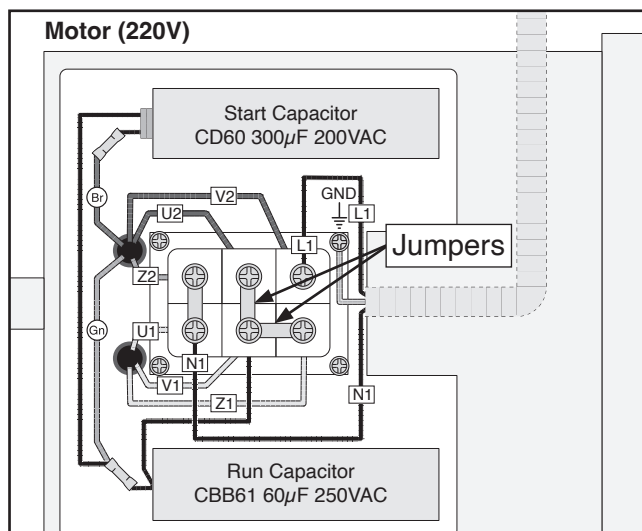

Figure 12. Motor rewired for 220V.
10. Move jumpers as indicated in **Figure 12**. One jumper will not be reused.
11. Move incoming power wire N1 to terminal with wire U1, as shown in **Figure 12**.
12. Move incoming power wire L1 to terminal with wire V2, as shown in **Figure 12**.
13. Completed 220V rewiring should match **Figure 12**.